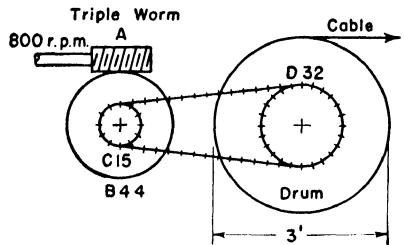

Fig. P 11.6
11.6. Determine the speed of the cable shown in Fig. P 11.6.